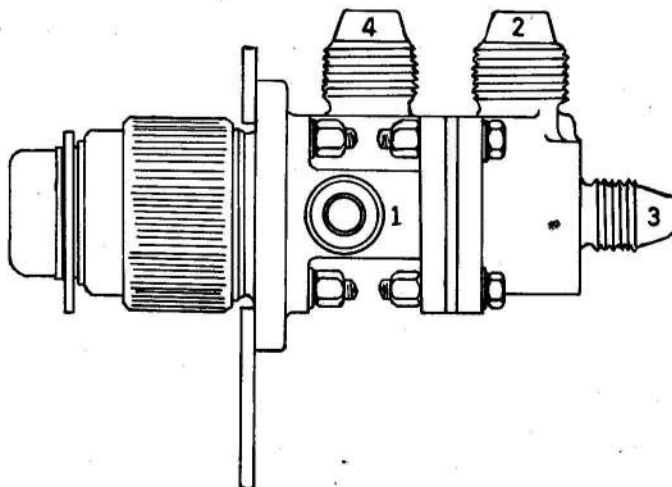

Fig. 1. Fill and vent valve (Ref. No. 6D/2166)
4. (1) Referring to fig. 1, remove all the transit blanks and the filler cap and check the valve for defects and damage.
5. (1) Re-fit the filler cap and fit a blank to connection 2 (fig. 1).